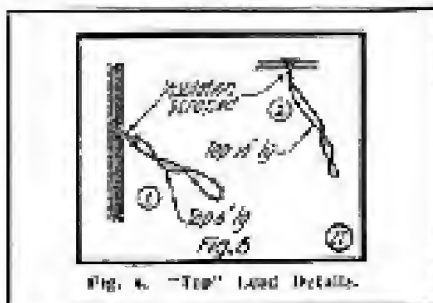

Fig. 6. "Tap" Lead Details.
The taps are made in the following order: Beginning of winding, end of first turn, end of second turn, end of third, 7, 9, 12, 16, 20, 24, 28, 32, 36, 40, 44, 48, 52, 56, 60, 64, 68, 72, 76, 80, 84, 88, 92, 96, 100, 104, 108, 112, 116, 120. (1) Fig. 5 shows the method of making taps. The taps should be made in a straight line down the coil; however, the first ones should be staggered a little, so the bare wires will not come in contact with each other. Be careful in scraping the insulation where the taps are twisted (see Fig. 6) not to cut the wire. By scraping the wire in this way losses from taps are minimized. Leave a good 6 inches for connections to the switch. It is well to run a little sealing wax over the wire where the taps are made. When the winding is complete fasten the end through two holes as before, leaving enough for connection. Next, cut up four strips of thin cloth, 4 inches by  $\frac{1}{8}$  inch, and soak them in fairly thick shellac. Then lay them lengthwise on the winding, 90 degrees apart. Cut off the ends of the cloth even with the ends of the tube; do not turn them under. This
28 double silk covered wire is required for the secondary coil. The taps (see (2) Fig. 6) are made differently. Instead of coming from the outside, they must come from the inside of the core. Beginning 1/10 of an inch from the end of the secondary core, mark off 3/10 of an inch 10 times. At these points make holes just large